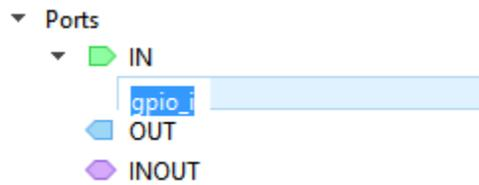

Figure 3.21. Rename an IN Port
- **NewPort1** is created. Double click NewPort1 to rename the port (Figure 3.21).